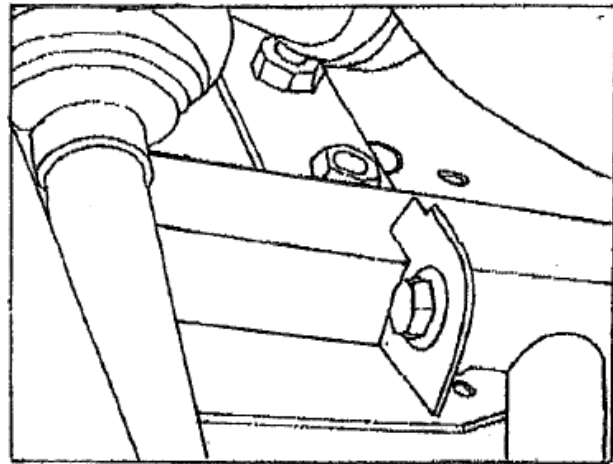

Figure 5
2. Attach the back of the mount using the Rear Buckle on the inside of the skid plate and secure it using the remaining 3/8" x 1 1/4" Hex Bolts, Flat Washers and Lock Washers. **See Figure 5.**